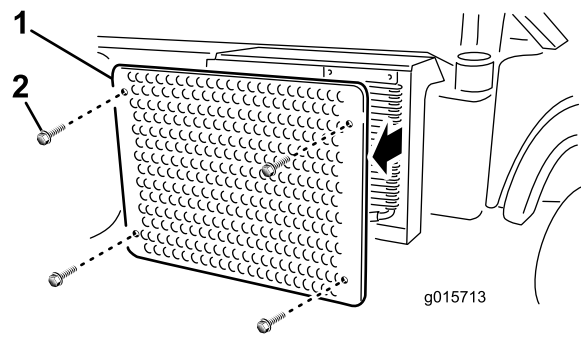

Figure 48
3. Remove the 5 bolts securing radiator screen/guard to the radiator (Figure 48).
Note: The guard is not shown in the figure. (Figure 48).
4. Remove the screen/guard (Figure 48).